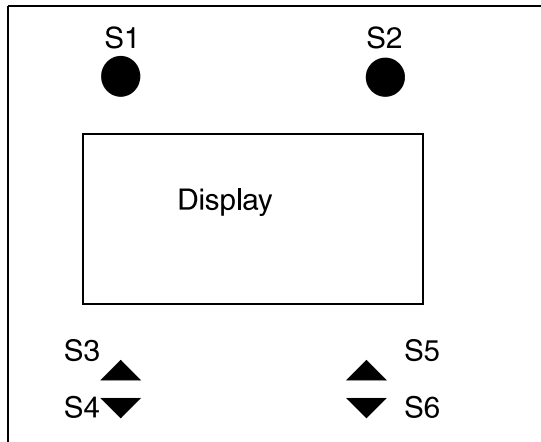

Fig. 32: Control panel
- Press the appropriate "fill" button (S5/Fig. 32 / p. 29) on the control panel until the water emerges bubble-free from the return hose in the water reservoir tank (hose pump M1 runs until V188 lights up on the D3 board).
- Activate the "fill" switch (S5/Fig. 32 / p. 29) on the control panel until the coupling bellows expands.
- Activate the "empty" switch (S6/Fig. 32 / p. 29) on the control panel until the coupling bellows is resting against the lens.